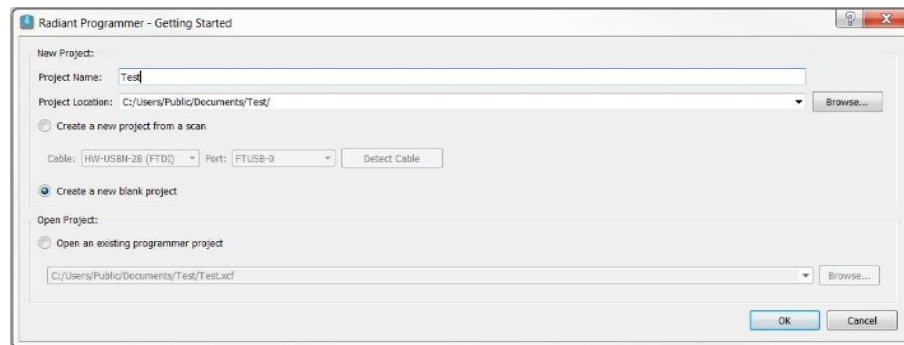

Figure 4.1. Radiant Programmer Getting Started Dialog Box
5. In the Getting Started dialog box, select **Create a new blank project** as shown in Figure 4.1.